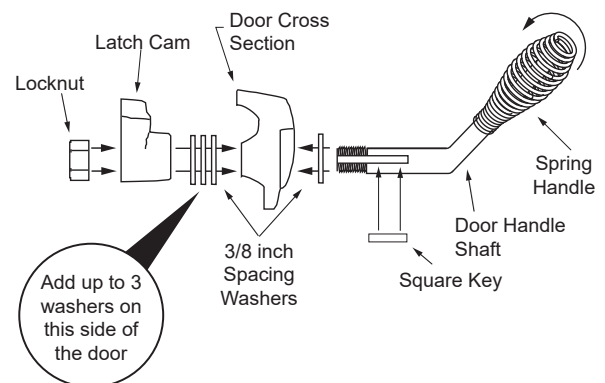

Figure 27.3 - Formed Door Handle with Spring
3. Pull the snap disc and spade connectors up and out of bracket as shown in **Figure 27.3**.
3. Add up to three washer as shown in **Figure 27.3** on the inside of the door.
7. Install handle turning in a counter-clockwise motion to desired location on door handle rod (**Figure 27.3**).